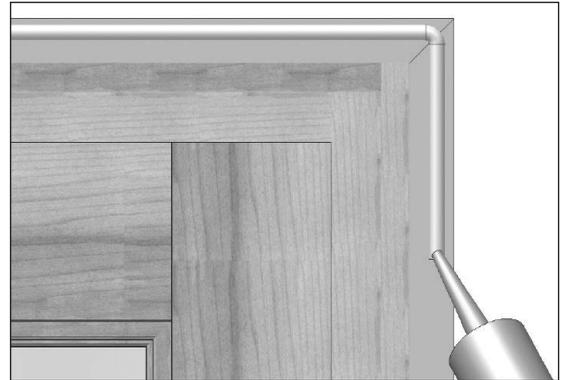

FIG. 8
- Apply sealant on the backside of the head and side brickmould. Apply a 1/4" continuous bead of silicone along the entire length a 1/4" from the outside edge of the brickmould. (Fig. 8)